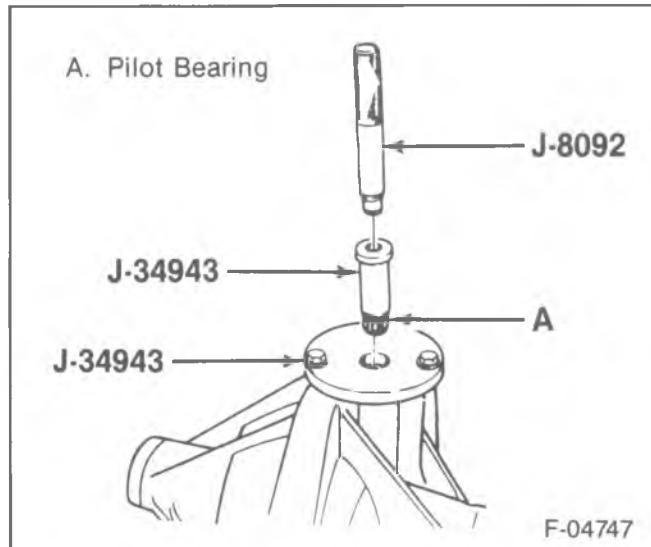

Figure 76—Installing the Pilot Bearing
1. Pinion pilot bearing (15) using J-34943 and J-8092 (figure 76).
- Place the bearing (15) onto the guide.
- Measure the pinion bearing shims (11). If a new pinion and ring gear set is installed, the pinion bearing shim pack must be adjusted.